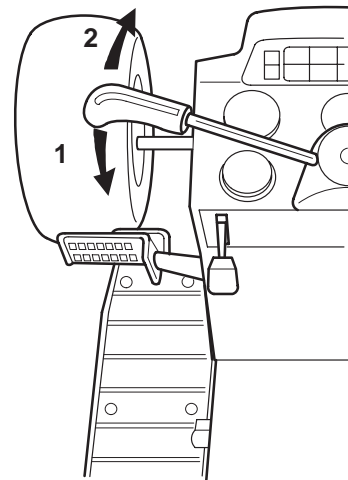

Figure 31
The attachment power lift (Fig. 31) is used to raise and lower attachments.
2. Pull the lift lever in the "UP" direction to raise the attachment lift (Fig. 31). This will lift and hold the attachment in the up, or raised position.
2. Push the lift lever in the "DOWN" direction to lower the attachment lift (Fig. 31). This will lower the attachment lift.